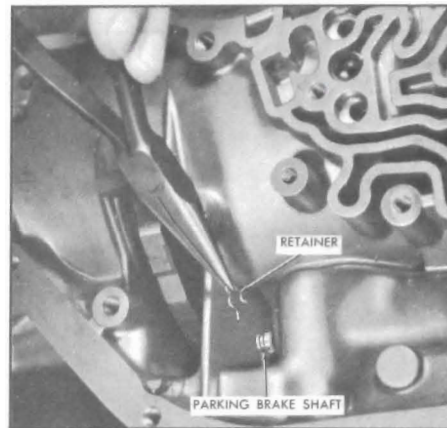

Figure 5-530
17. Remove parking pawl shaft retainer. See Figure 5-530.